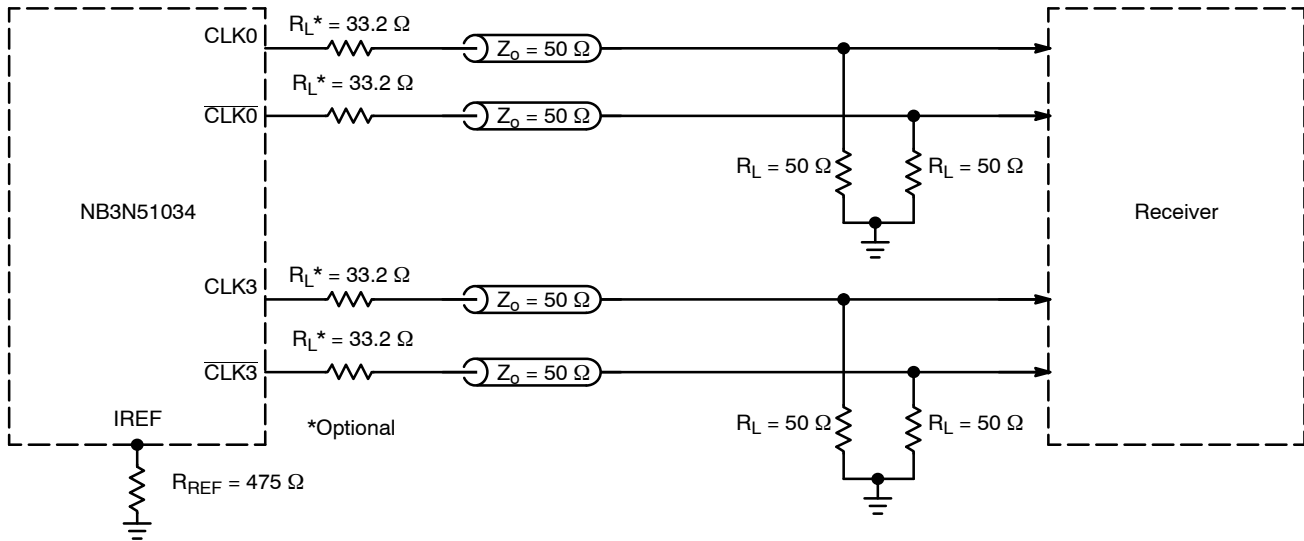
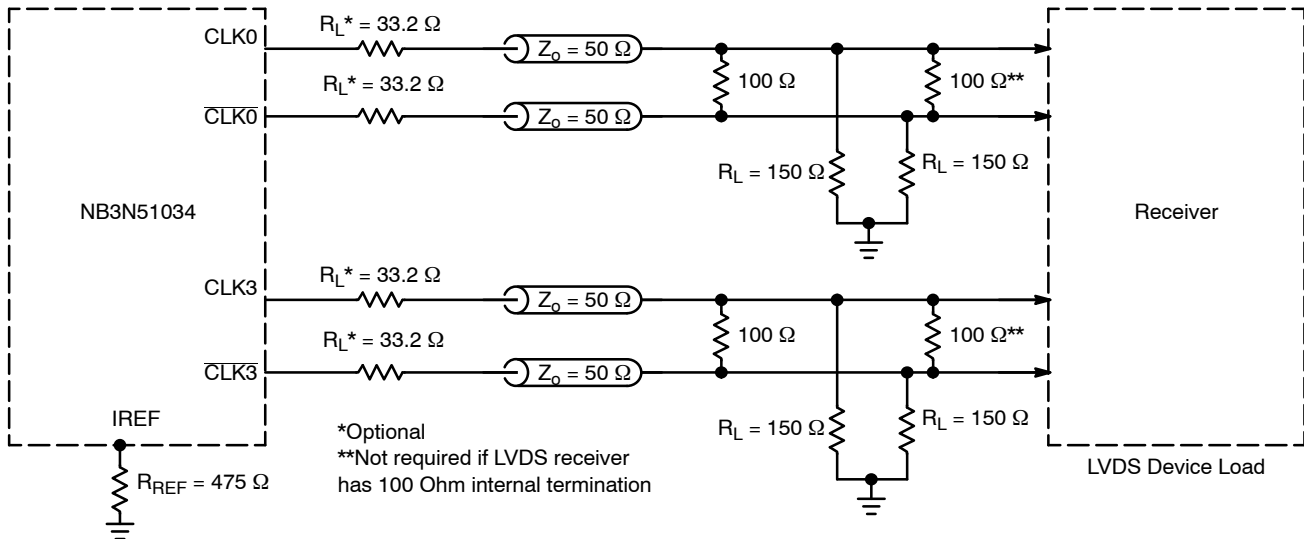

Figure 7. Typical Termination for HCSL Output Driver and Device Evaluation
Figure 8. Typical Termination for LVDS Device Load
- VDDXD and VDDODA power pins must be shorted to power supply voltage VDD and GNDXD and GNDODA ground pins must be shorted to power supply ground GND. Measurement taken with outputs terminated with RS = 33.2 Ω, RL = 50 Ω, with test load capacitance of 2 pF and current biasing resistor set at 475 Ω. See Figure 7. Guaranteed by characterization.
12. VDDXD and VDDODA power pins must be shorted to power supply voltage  $V_{DD}$  and GNDXD and GNDODA ground pins must be shorted to power supply ground GND. Measurement taken from differential output on single-ended channel terminated with  $R_S = 33.2\ \Omega$ ,  $R_L = 50\ \Omega$ , with test load capacitance of 2 pF and current biasing resistor set at 475  $\Omega$ . See Figure 7. Guaranteed by characterization.
19. VDDXD and VDDODA power pins must be shorted to power supply voltage VDD and GNDXD and GNDODA ground pins must be shorted to power supply ground GND. Measurement taken from differential output on single-ended channel terminated with RS = 33.2 Ω, RL = 50 Ω, with test load capacitance of 2 pF and current biasing resistor set at 475 Ω. See Figure 7. This parameter is guaranteed by characterization. Not tested in production.
The outputs can be terminated to drive HCSL receiver (see Figure 7) or LVDS receiver (see Figure 8). HCSL output interface requires 49.9  $\Omega$  termination resistors to GND for generating the output levels. LVDS output interface may not